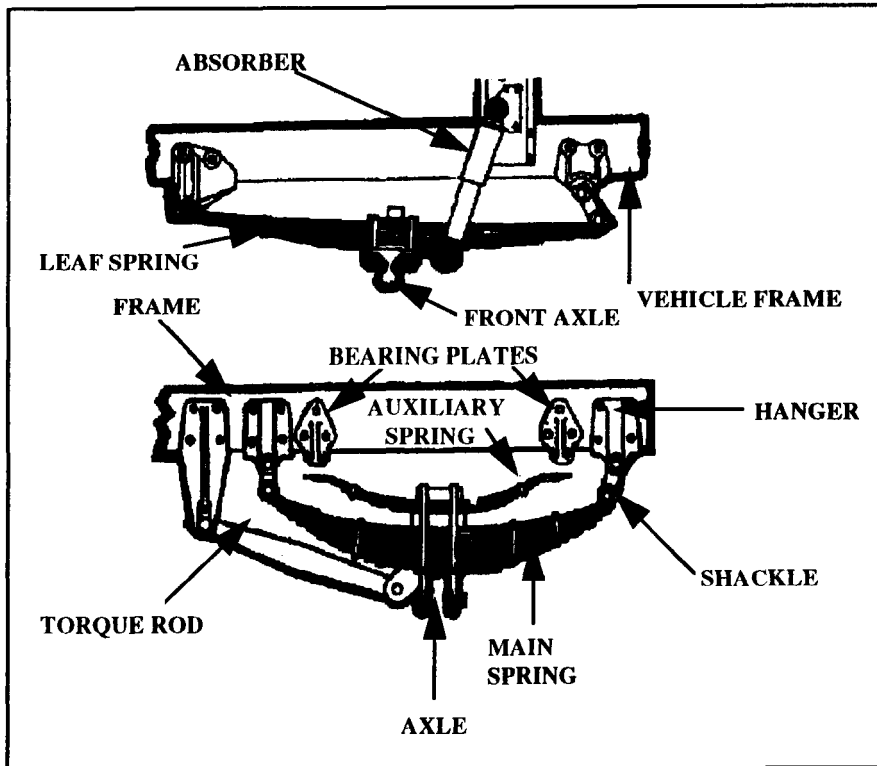

Figure 2-10. Key suspension parts
- (1) Spring hangers (see Figure 2-10, page 2-4 1) that allow the axle to move from the proper position.
- (2) Cracked or broken spring hangers.
- (3) Leaking shock absorbers (see Figure 2-10).
- (4) Cracked, damaged, or missing torque rods or arms, U-bolts, spring hangers, or other axle-positioning parts (see Figure 2-10).